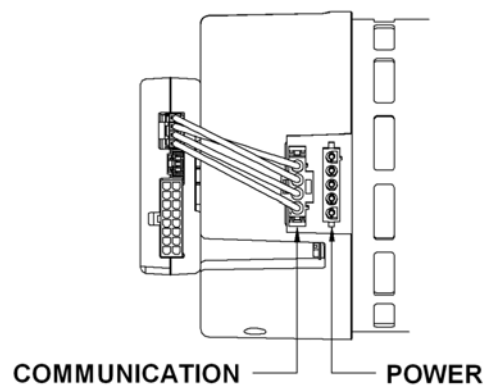
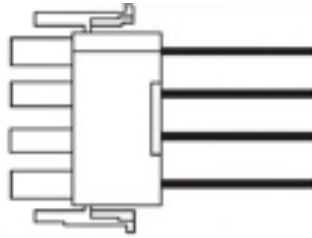

Figure 5
Figure 6
2. Disconnect the 4-wire communication cable from the control unit connector [Figure 5].
3. Connect the 4-wire connector of the UltraCheck-EZ® diagnostic tool [Fig. 6] to the control unit communication connector [Fig. 5].
11. Reconnect the 4-wire communication connector to the control unit connector [Figure 5].
4. Disconnect power cord from connector on the control unit. Inspect power cord for bent, damaged or recessed wires and terminals. See Figure 5.
5. Disconnect 4-wire communication cable from connector on control unit. Inspect cable for bent, damaged or recessed wires and terminals. See Figure 5.